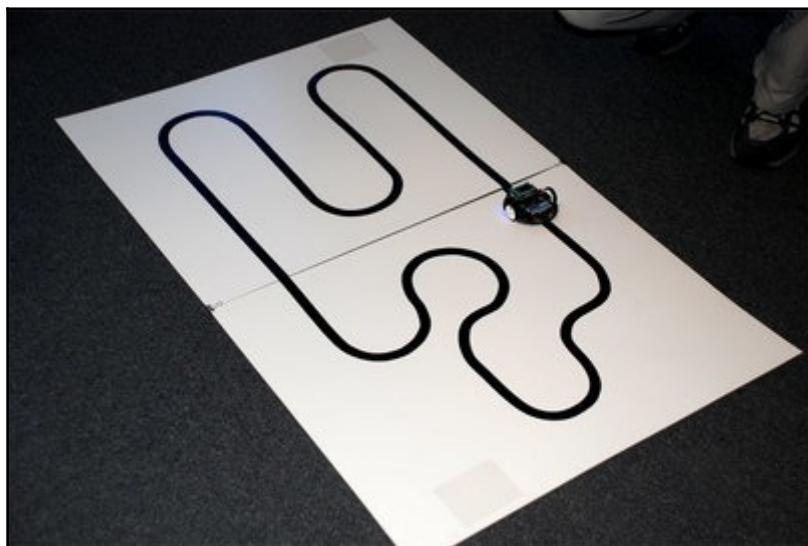

Figure 5.12: A line-following Zumo robot. Image courtesy of Pololu (<https://www.pololu.com>)
2. Then, place the robot on the dark line of the race track and turn on the power button. The robot will start to follow the dark line (*Figure 5.12*). Line-following robots are very susceptible to light and ground texture changes and may show unexpected line-following behaviors. If so, adjust the contrast and lighting on the environment: